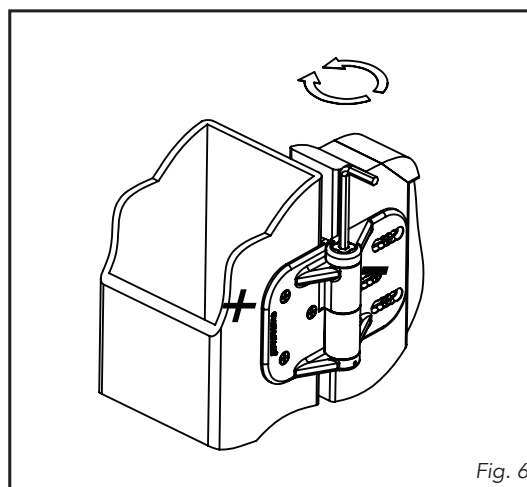

Fig. 6
3. Rotate the cam clockwise to increase spring tension and counter-clockwise to reduce spring tension. Adjust one hinge at a time in quarter-turn increments (Fig 6).